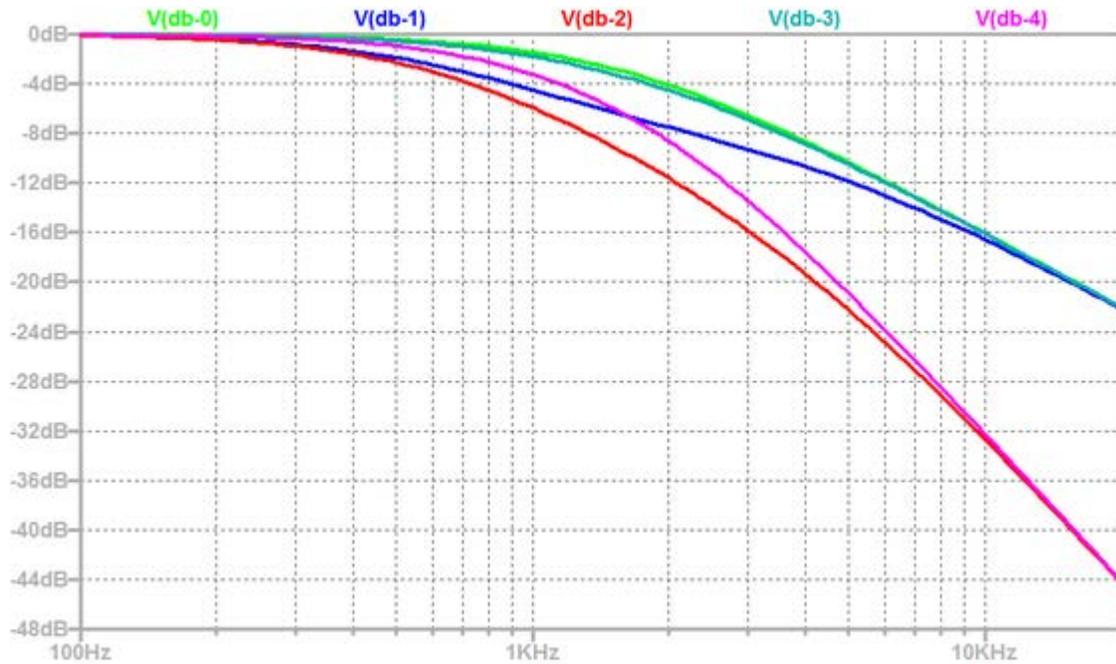

Figure 2. Plot of AC Sweep Simulation Results.
Run the simulation sweeping the input frequency from 100 Hz to 20 kHz. You should get a frequency response plot that looks something like Figure 2.
As we can see in Figure 2, the completely unloaded 1st-order filter (dB-0 green line) and the lightly-loaded 1st-order section (dB-3 slightly darker green line) are nearly on top of each other. The loaded 1st-order point (dB-1 blue line) is significantly lower than the other two lines at the frequency of the  $RC$  time constant. However, all three converge to the same line at high frequencies, 20 kHz or above. The two 2nd-order outputs at dB-2 (red line, loaded) and dB-4 (pink line, lightly loaded) also show significant differences at the  $RC$  time constant frequency but also converge to the same line at 20 kHz and above. At 20 kHz the response of the 2nd-order filters is 20 dB lower than the 1st-order filters as one would expect.
3. How do your measured results compare to your simulation results (as in Figure 2)? Explain any differences.